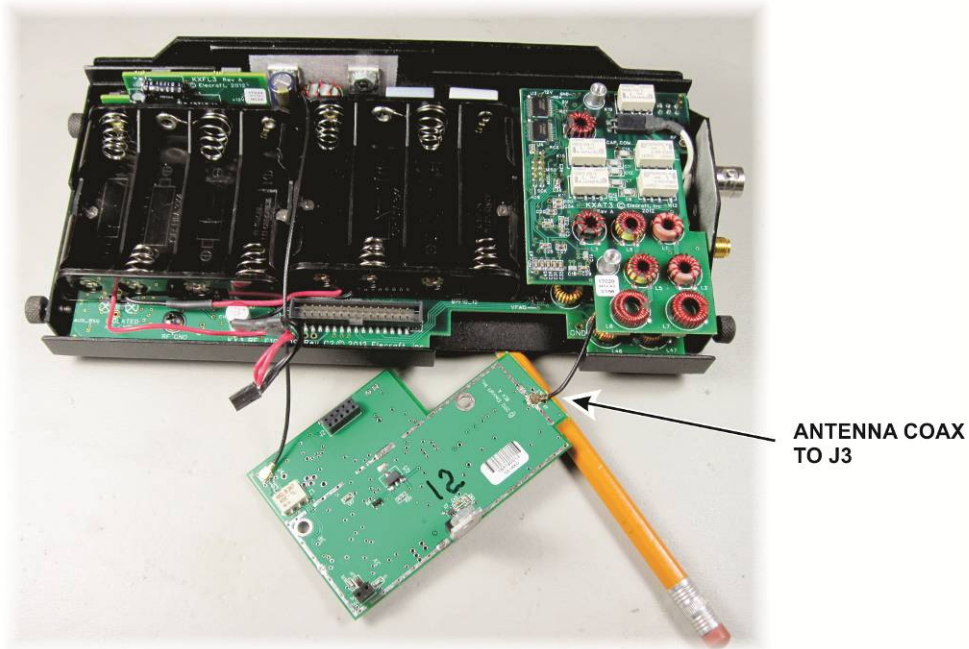

Figure 23. Attaching the Antenna Coax to the KX3-2M or 4M Board.
- Connect the antenna coax to the ANT connector (J3) on the KX3-2M or 4M board as shown in Figure 23.